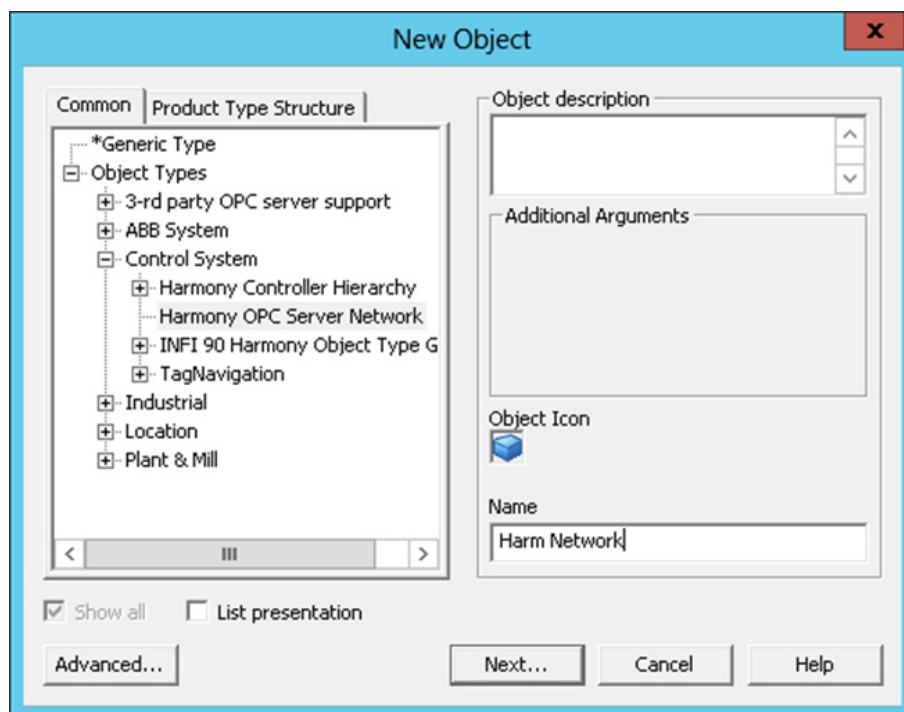

Figure 52. New Object
4. Open Production Workplace and then create a Harmony OPC Server Network Object in Control Structure as shown in Figure 52.